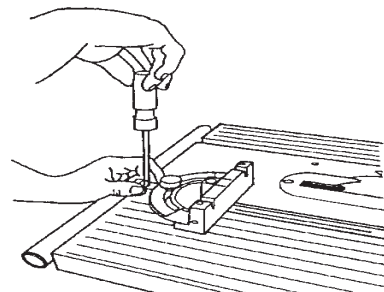

Figure C-52
- b. Use a medium screwdriver, loosen the screw (273) which holds the indicator plate (275), and set its "0" to the miter gauge's "90". Tighten the screw. See Figure C-52.